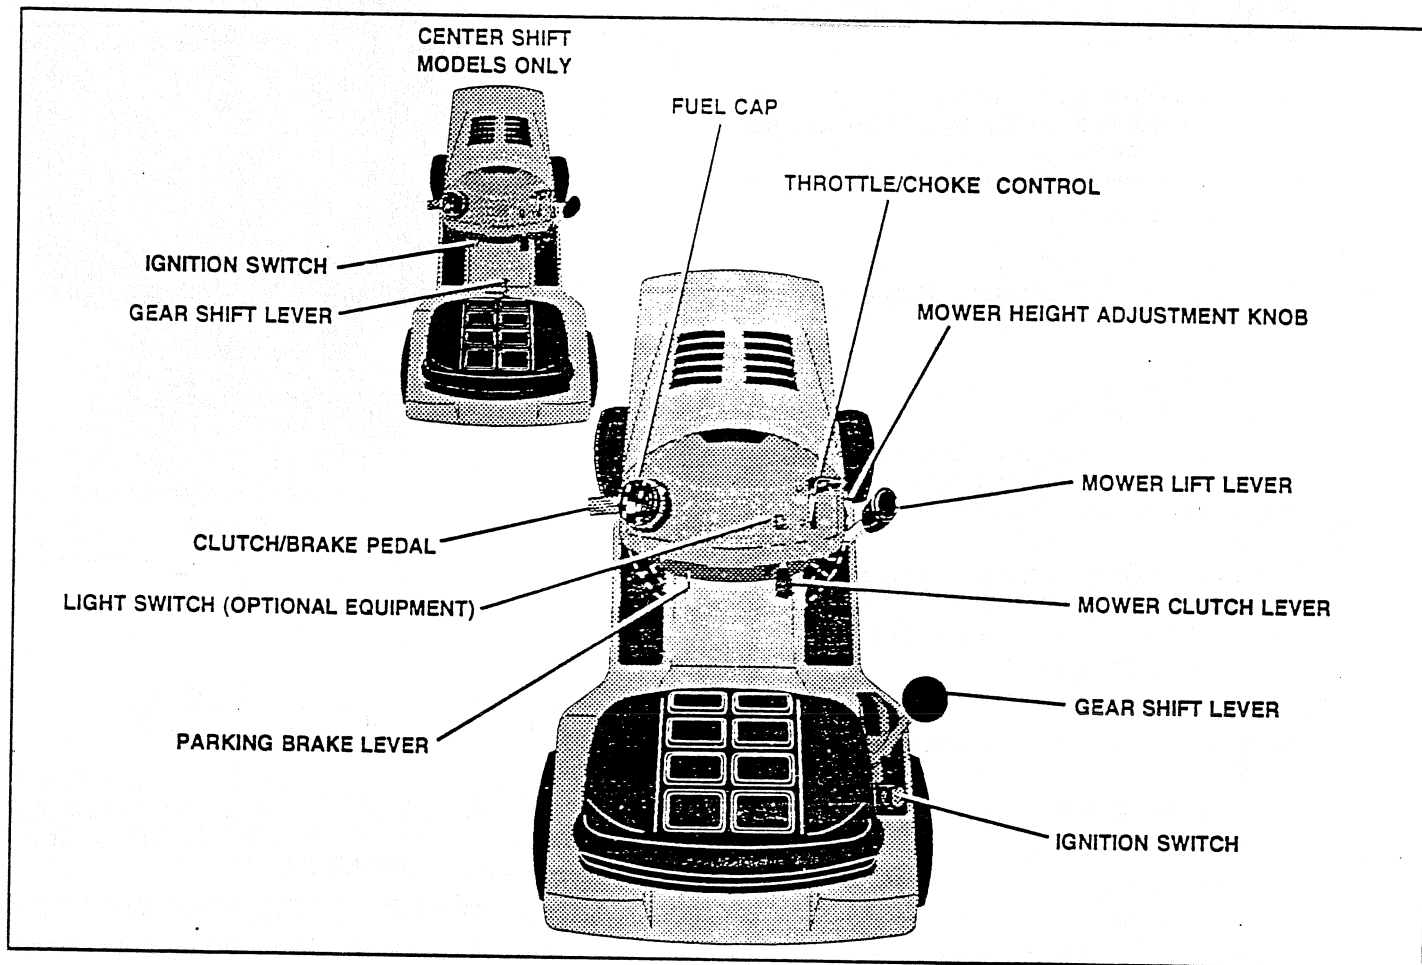

FIG. 7
- Slide seat until a comfortable position is reached which allows you to press clutch/brake pedal all the way down (See Fig. 7).
TO START ENGINE (See Fig. 7)